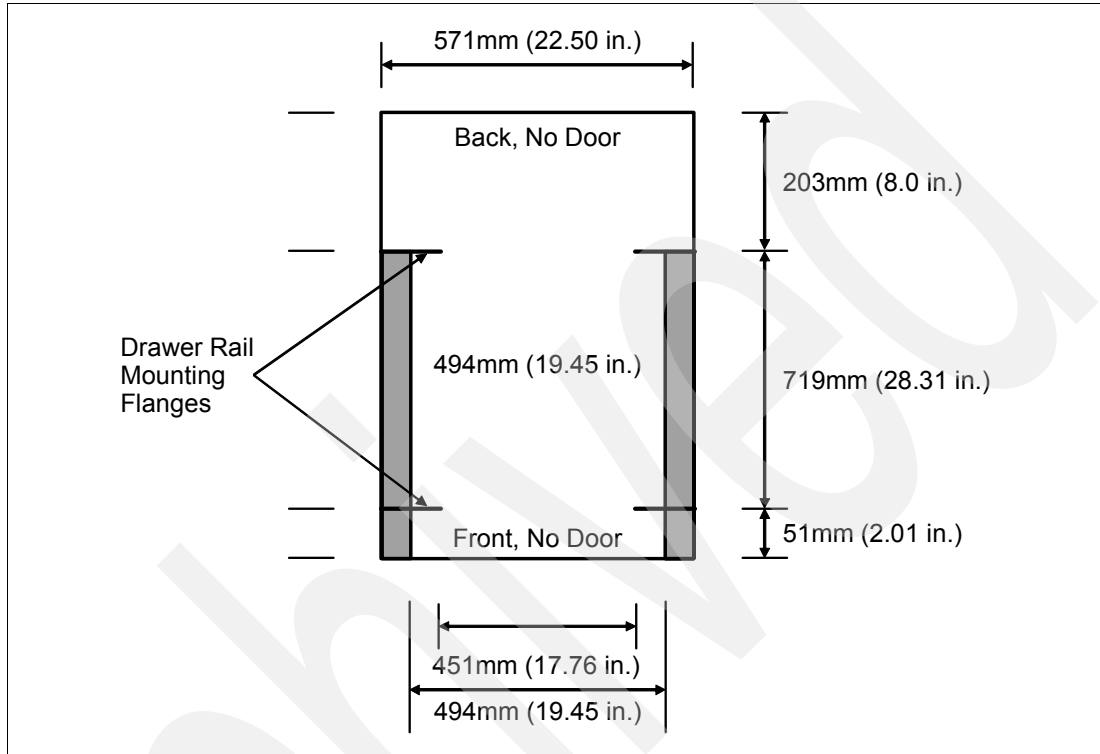

Figure 1-6 Top view of non-IBM rack specification dimensions
- ▶ The front rack opening must be 451 mm wide ± 0.75 mm (17.75 in. ± 0.03 in.), and the rail-mounting holes must be 465 mm ± 0.8 mm (18.3 in. ± 0.03 in.) apart on center (horizontal width between the vertical columns of holes on the two front-mounting flanges and on the two rear-mounting flanges). Figure 1-6 shows a top view showing the specification dimensions.